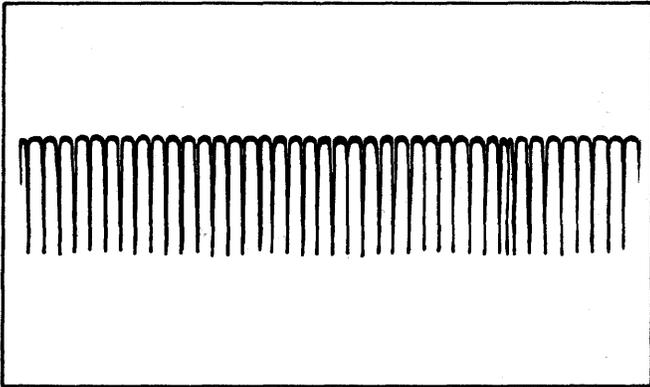

Figure 4-2. SECTOR Pulses
2. Observe the SECTOR pulses, as shown in figure 4-2, and count them. There should be 32 sector pulses between the INDEX pulses.